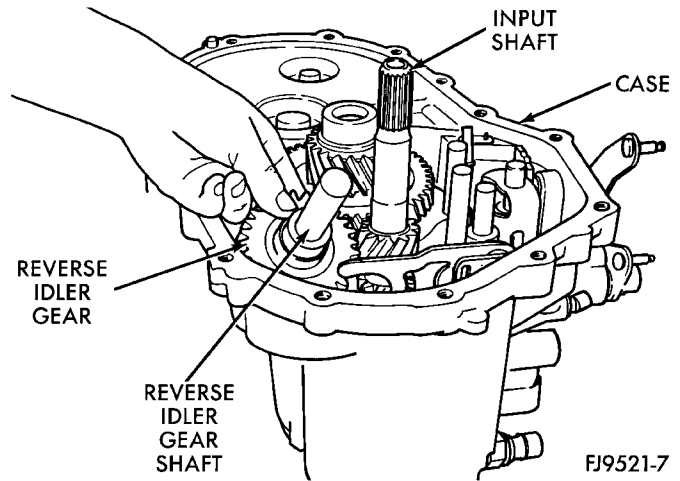
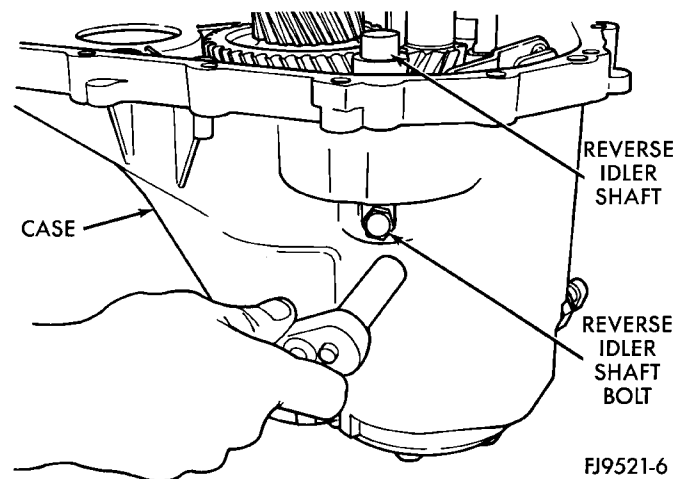

Fig. 71 Reverse Idler Gear
Fig. 72 Reverse Idler Shaft Bolt
(17) Push selector shaft spacer clip onto selector shaft. Install shift levers.
(18) Install reverse idler gear and shaft. Install bolt into shaft. Tighten bolt on shaft to 26 N·m (19 ft. lbs.) torque (Fig. 71) (Fig. 72).